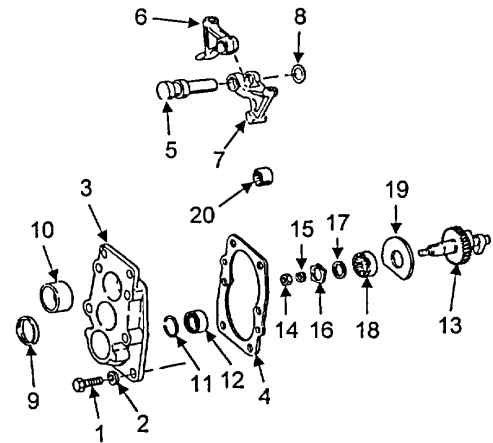

FIGURE 5-48. TIMING COVER CAMSHAFT ASSEMBLY
- a. Remove six screws (Figure 5-48, Item 1) and washers (2) and remove timing cover (3) and camshaft (13).
- c. If needle bearing (20) is damaged, remove using camshaft needle bearing punch 666 425 00.
- d. Replace new needle bearing (20) using camshaft needle bearing mounting device 666 418 00.
- a. Assemble spacer (Figure 5-48, Item 19), roller bearing (18), flanged wheel (17), retaining ring (16), spring washer (15), and hex nut (14) onto camshaft (13).